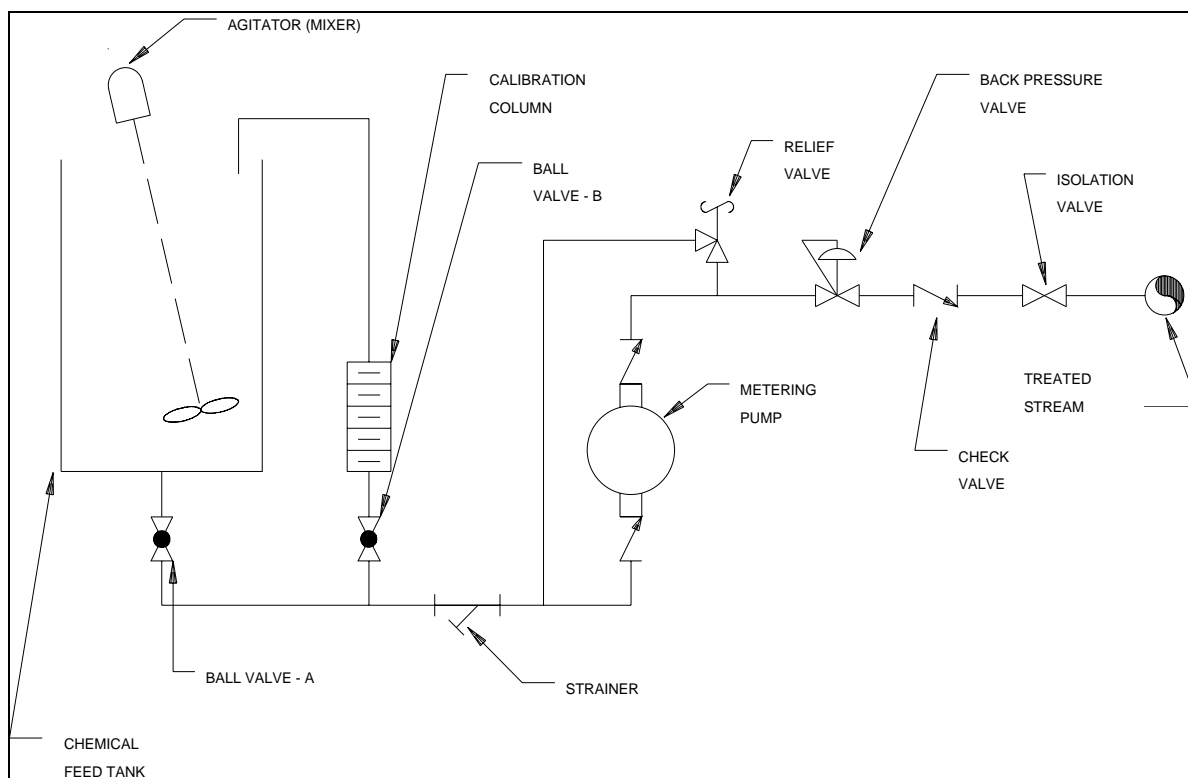

Figure 13-1. Typical test tube calibration column installation
- (1) Inspect packing gland and tighten if necessary.
- (2) Check for correct positioning and operation.
(3) Check for leaking seals.
(4) Adjust operator linkages and limit switches on control valves.
d. *Chemical metering pump calibration.* A common method of verifying the pumping rate of a metering pump is by means of a test tube calibration column. A typical test tube calibration column installation is shown on Figure 13-1. The pumping rate at a given setting is determined as follows.
(1) With the metering pump operating normally and the storage tank level higher than top of calibration column, open Valve B and allow the calibration column to fill.
(2) When the liquid level reaches the zero division mark, close Valve A and start timer. **Do not fill above the zero division mark.** (Note: Any division mark may be used as a starting point; however, filling to the zero mark allows a longer time interval which increases accuracy.)
(3) After a timed interval of not less than 30 seconds, note the reading on the calibration column and the time interval, and open Valve A and close Valve B.
(4) Determine pumping rate by dividing amount pumped by the time interval. (Note: Follow directions on calibration column to determine flow rate units.)
(5) Check the measured flow rate against the setting on the pump. If the actual flow rate is significantly different than the set flow rate, repeat Items 1 through 4 to confirm difference before taking action.